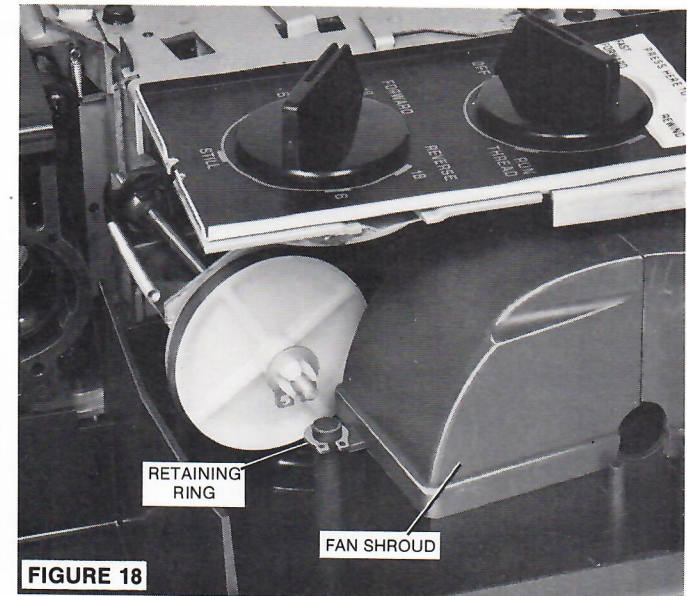

FIGURE 18
3. Remove the RETAINING RING from the FAN SHROUD, Figure 18.
4. Remove the RETAINING RING from the FAN SHROUD, Figure 18.